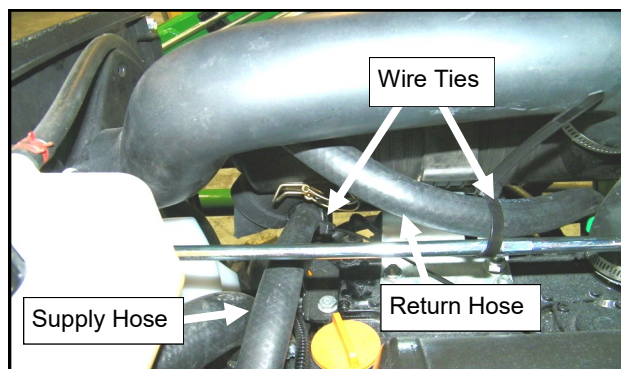

Fig. 8.4b (Route Hoses, 1025R)
- 8.4 Cut the supplied heater hose approximately in half. Connect the hoses to the fittings installed in steps 8.2 and 8.3 with small hose clamps. Route the supply hose across the top of the engine and behind the large bracket on the right side, and secure the hose to the bracket with a large wire tie provided. See Figure 8.4b.
Tractor Model 1025R: Route the return hose up around the air filter, under the air intake tube, behind the bracket for the intake and down the right side of the engine. Secure to the rod that runs along the top of the engine with a wire tie. See Figure 8.4b.